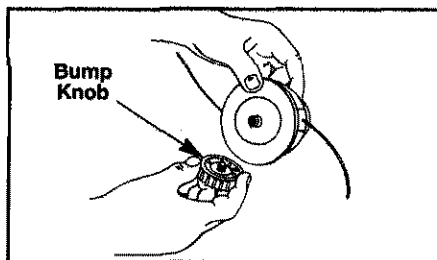

Fig. 12
1. Hold the outer spool with one hand and unscrew the Bump Knob™ **counterclockwise** (Fig. 12). Inspect the captured bolt inside the Bump Knob to make sure it moves freely. Replace the Bump Knob if it is damaged.
3. Hold the inner reel in place and install the Bump Knob in the **clockwise** direction (Fig. 12). Line installation is now complete.